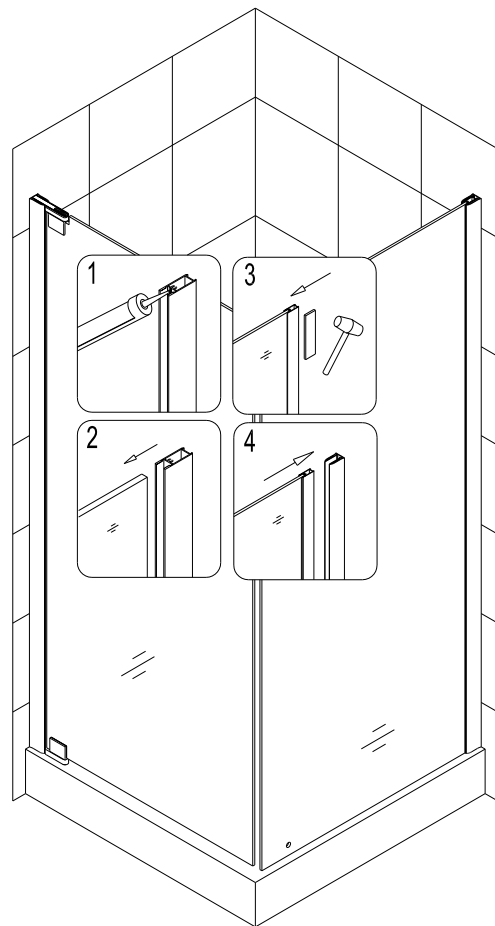

Fig. 8
8. Apply silicone along the full length of the **Glass profile 2 (03)** channel and then push the **Return glass (06)** into the channel. (Note that the hole in the return glass should be located at the bottom and close to the glass door). Gently tap on the **Glass profile 2 (03)** with the rubber hammer through the wooden block so the **Return glass** slides inside the **Glass profile 2**. See fig. 8 for details.